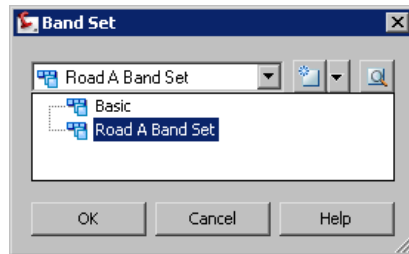

Figure 6-76 The **Band Set** dialog box
3. Choose the **Bands** tab and then choose the **Import band set** button from the **Bands** tab; the **Band Set** dialog box is displayed, as shown in Figure 6-76.